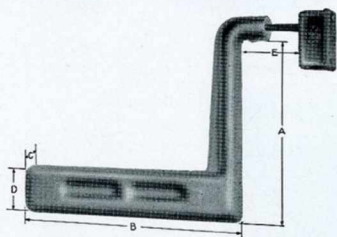
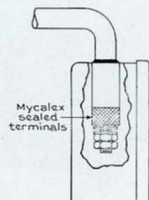

Fig. 1
Fig. 7
* Price covers unit with terminal box as illustrated in Fig. 1 to 6. Where units are used in the presence of acid fumes, excessive oil, or moisture, the sealed terminal box illustrated by Fig. 7 should be specified. Price, \$5.00 additional.